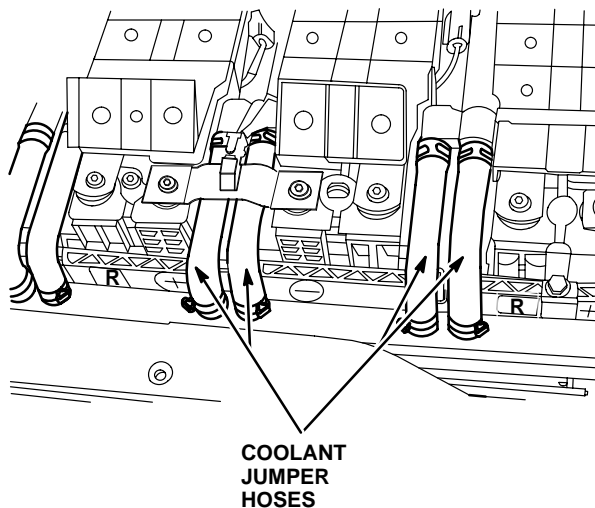

Fig. 6 Battery Coolant Hoses
(15) Disconnect coolant hoses from battery being removed (fig. 6).
(16) Remove battery.